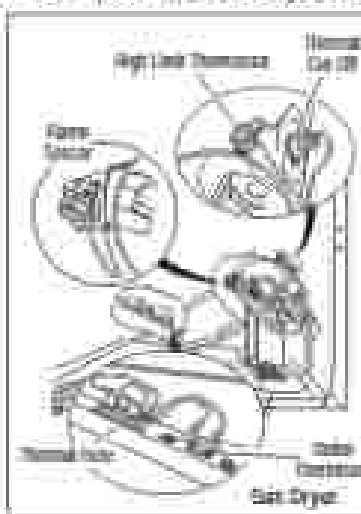

Figure 2 - Thermal components, gas dryer, viewed from front.
5. Loosen the high limit thermostat (see figure 2, page 3-14). Measure the continuity through it by connecting the meter probes to the red and black wire terminals.